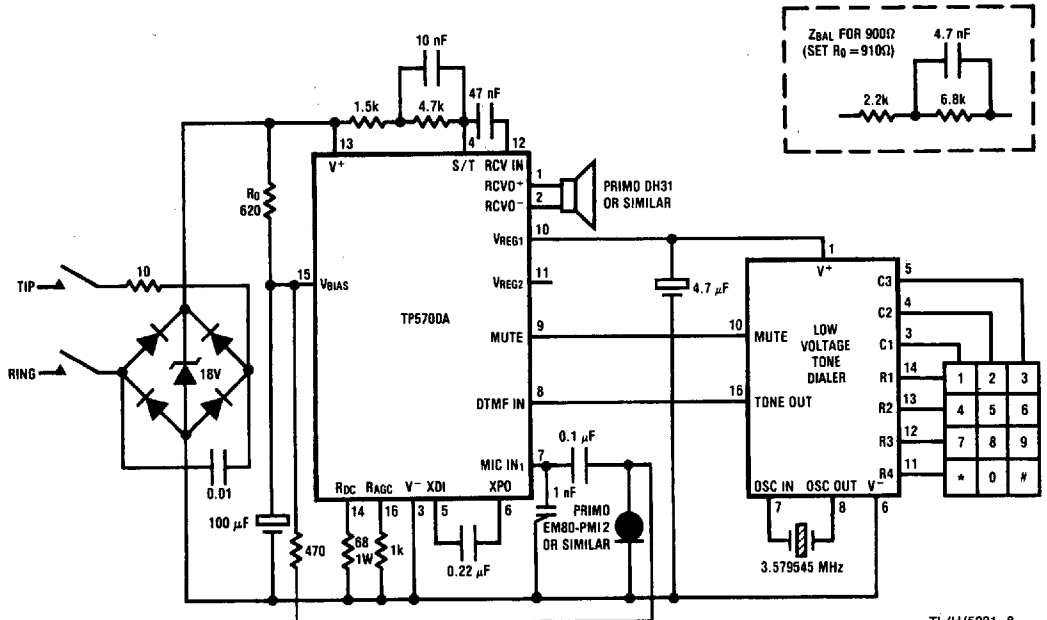

FIGURE 4. Typical Tone Dialing Telephone
3. V_{BIAS} (pin 15) may be used as a decoupled, but unregulated, supply for electrets requiring a higher operating voltage than V_{REG1} or V_{REG2}. The additional current drawn through R_O will, however, raise the minimum operating voltage of the Speech Circuit. If this method is used the decoupling capacitor must be increased to at least 100 μF to maintain good low frequency return loss. (See Figure 4.)
Figure 4 shows the TP5700 directly interfacing to a low voltage DTMF generator. V_{REG1} supplies the necessary 2V minimum bias to enable the low voltage tone dialer to sense key closures and pull its MUTE output high. V_{REG1} then switches to a 3V regulated output to sustain the Tone Dialer during tone generation. The TP5700A DTMF input incorporates the necessary load resistor to V⁻ and provides gain plus AGC action to compensate for loop length. A muted tone level is heard in the receiver. For DTMF generators with a higher output level, a resistive potentiometer should